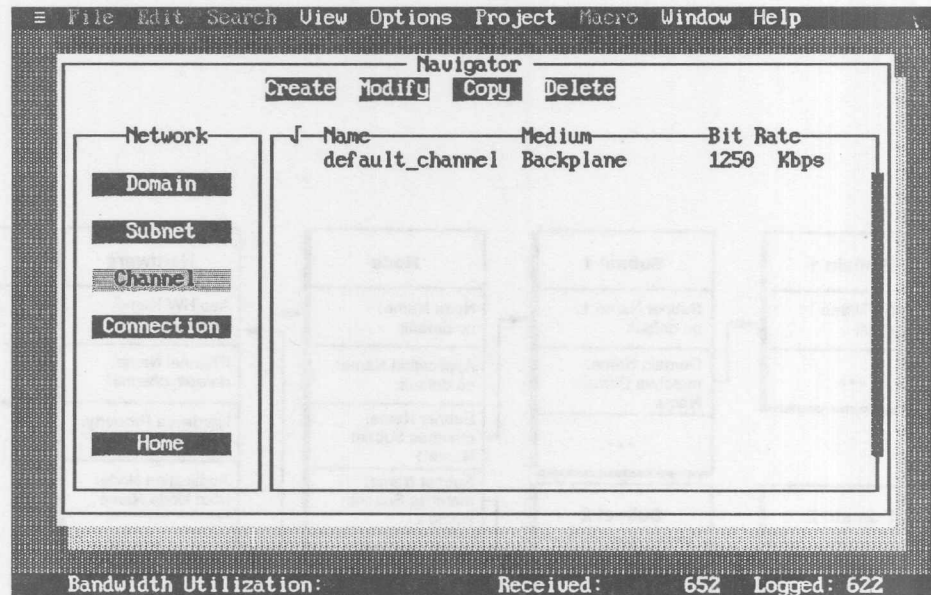

Figure 10-3. Navigator Network Selectors
- 2 Select the Network button to list the network object type selectors—Domain, Subnet, Channel, and Connection (see figure 10-3).